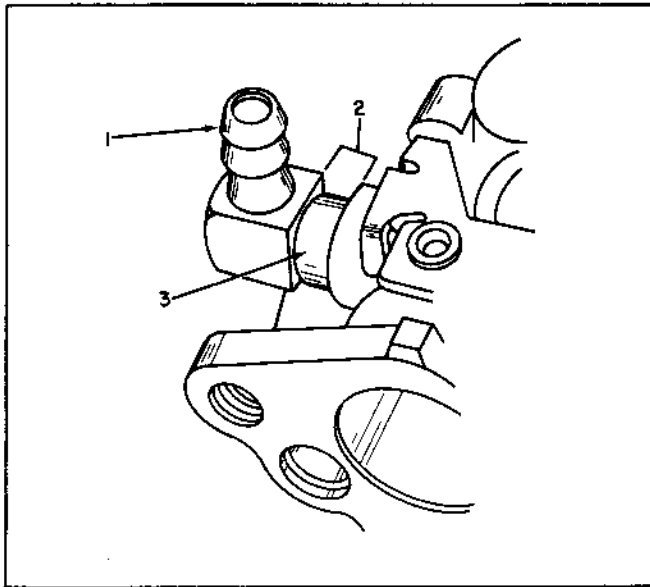
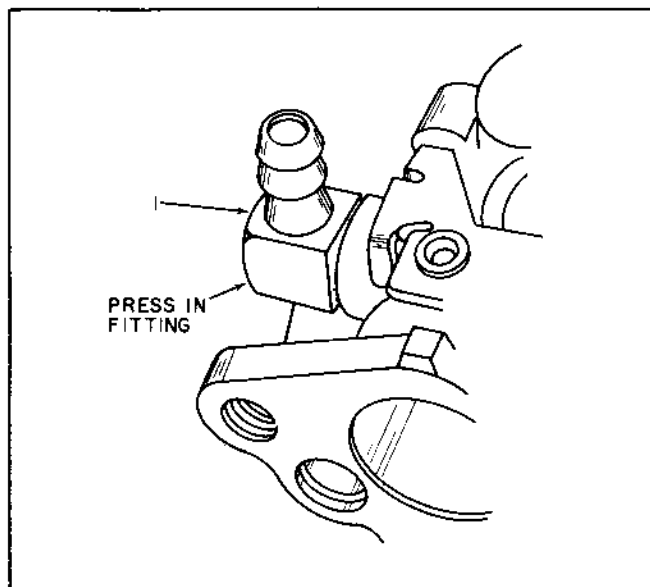

Figure 7-10. Replacing Fuel Inlet Fitting
Figure 7-11. Replacing Inlet Fitting
- (1) Inlet Fitting Valve.
- a. Observe and record the angle of the fuel inlet fitting (No. 1, Fig. 7-10) before removal. Remove the fuel inlet fitting by twisting and pulling. Examine for dirt or leaking.
- c. Position the fuel inlet fitting in the carburetor body at the proper angle, but DO NOT press in more than 1/3 into carburetor body. (No. 2, Fig. 7-10).
- d. Coat portion of exposed fuel inlet fitting shoulder (No. 3, Fig. 7-10) with Lock-tite, Grade "A" and press it until bottomed. (No. 1, Figure 7-11).